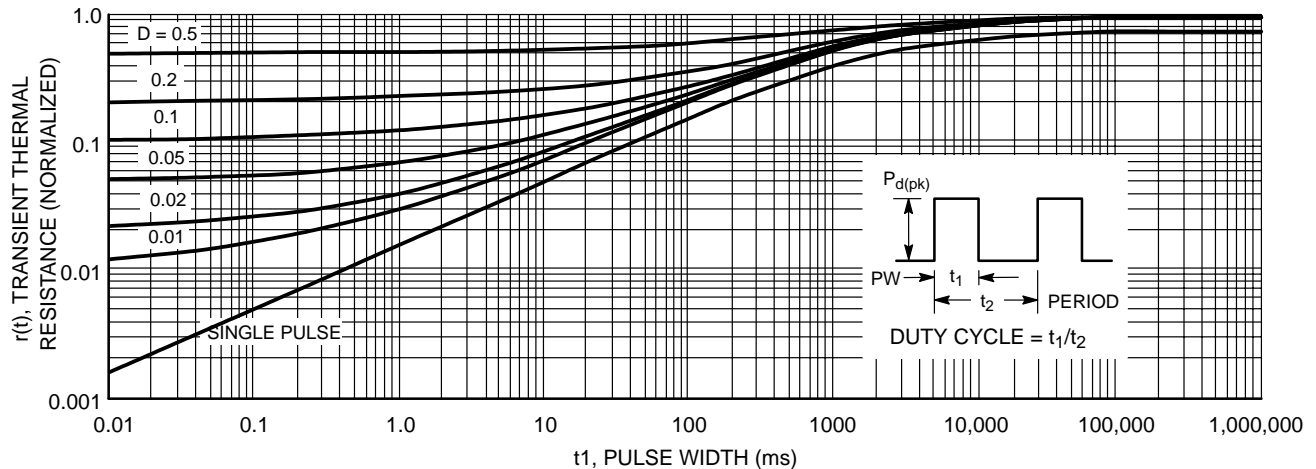

Figure 11. Transient Thermal Response
Figure 11 of the NUD3105LT1 data sheet plots its transient thermal resistance, $r(t)$ as a function of pulse width in ms for various pulse train duty cycles as well as for a single pulse and illustrates this effect. For short pulse widths near the left side of the chart, $r(t)$, the factor, by which the continuous duty thermal resistance is multiplied to determine how much the peak power rating can be increased above the average power rating, approaches the duty cycle of the pulse train, which is the expected value. However, as the pulse width is increased, that factor eventually approaches 1.0 for all duty cycles indicating that the pulse width is sufficiently long to appear as a continuous duty condition to this device. For the NUD3105LT1, this pulse width is about 100 seconds. At this and larger pulse widths, the peak power dissipation capability is the same as the continuous duty power capability.
To use Figure 11 to determine the peak power rating for a specific application, enter the chart with the worst case pulse condition, that is the max pulse width and max duty cycle and determine the worst case $r(t)$ for your application. Then calculate the peak power dissipation allowed by using the equation,
2. For pulsed operation, use the Transient Thermal Response of Figure 11 and the instructions with it to determine the maximum limit on transistor power dissipation for the desired duty cycle and temperature range.